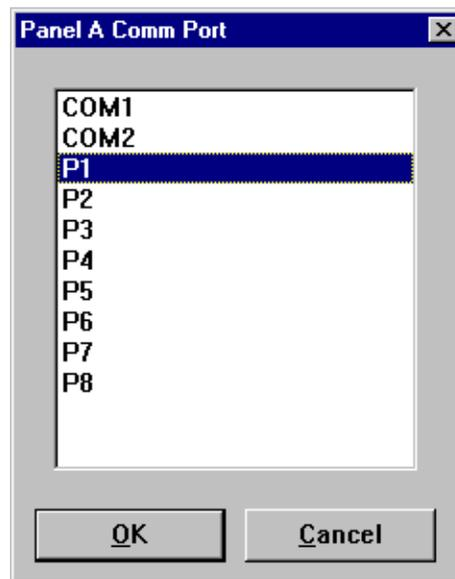

Figure 74. Comm Port dialog box
2. Choose **Controller | Comm Port** to open the Comm Port dialog box. An example of this dialog box is shown in Figure 74.
9. Choose **Controller | Comm Port** to open the Communication Port dialog box (see Figure 74 on page 132).